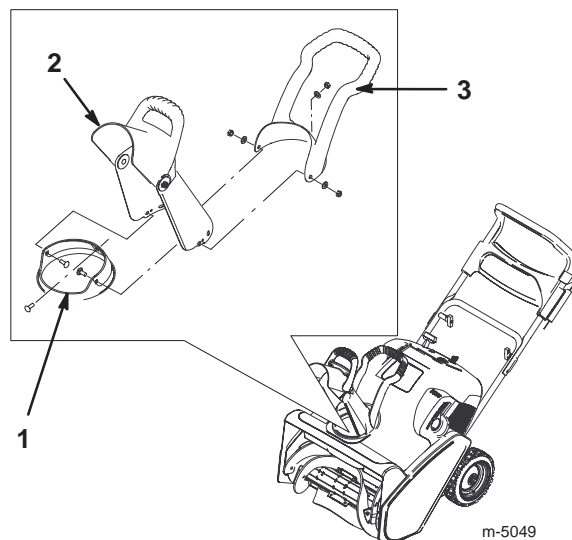

Figure 5
1. Place the discharge chute over the chute ring, and align the hole in the back of the discharge chute with the center hole in the chute ring (Fig. 5).
2. Insert a screw in the center hole of the chute ring from the inside until the screw just passes through the hole in the discharge chute (Fig. 5).
3. Insert the chute handle over the discharge chute, align the center hole in the chute handle with the screw, and fully insert the screw through the center hole in the chute handle (Fig. 5).